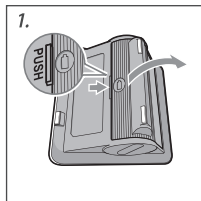

Fig.2
1. Open the battery compartment (Fig. 2).